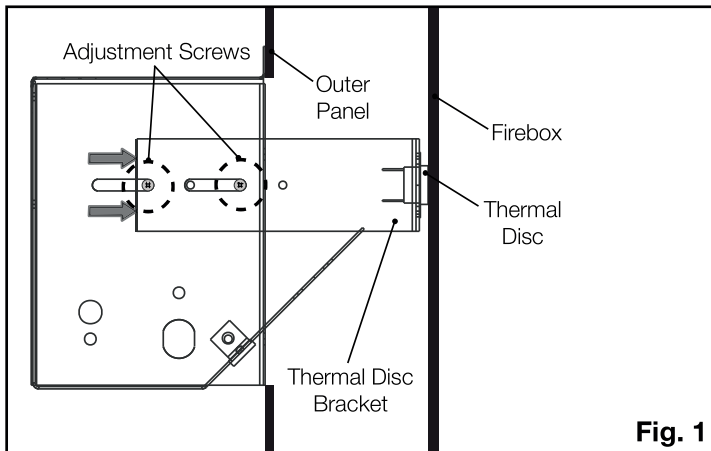

Fig. 1
1. Ensure the thermal disc bracket is in the correct position (**Fig. 1**).